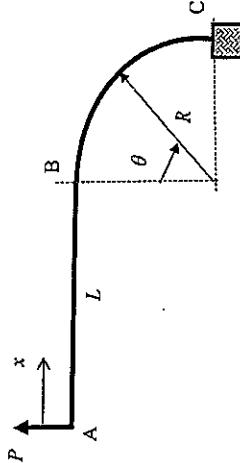

Figure 2
- Determine the relationship between the applied force (F) with respect to the spring stiffness (k), angle (θ), the bar dimension, a , and b . Use the Principle of Virtual Work (PVW) method. Draw and specify your datum. Neglect friction and self-weight of the bars. (4 marks)
- Calculate the applied force F in Newton (N), if the angle, $\theta = 45^\circ$, the spring stiffness, $k = 50 \text{ N/m}$. The bar dimension, $a = 1.0 \text{ m}$, and $b = 2.0 \text{ m}$ respectively. (2 marks)
- A welded beam ABC, has a horizontal segment of length, L , connected to a curved segment with radius R . The beam is fully fixed at point C, and has a vertical load P , applied at point A as shown in Figure 2. The deflection and rotation at any point of the beam can be calculated using the Unit Load and Unit Moment method.